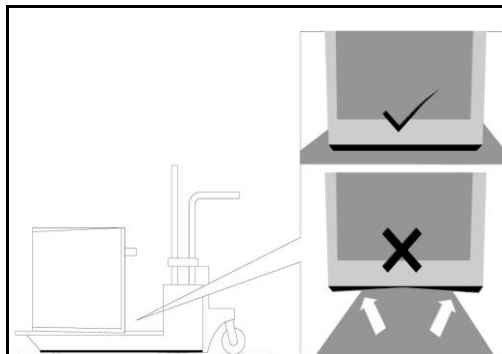

Figure 12
- To avoid damage to the oven vent, use the transport method shown in Figure 12.